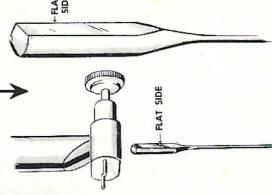

Fig. 4
- Loosen needle clamp by loosening needle clamp screw (A) and insert new needle (with flat side of the needle shank toward the right) into groove of needle bar (Fig. 4).